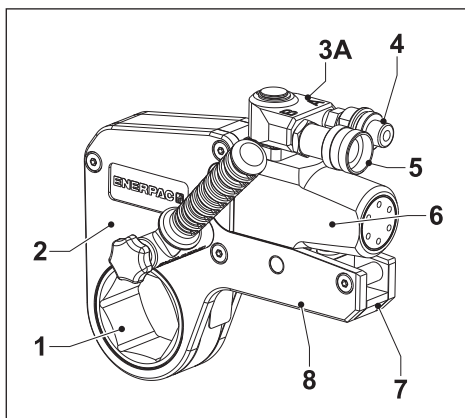

Fig. 1
3.1 Overview and features (Fig. 1 or 2)